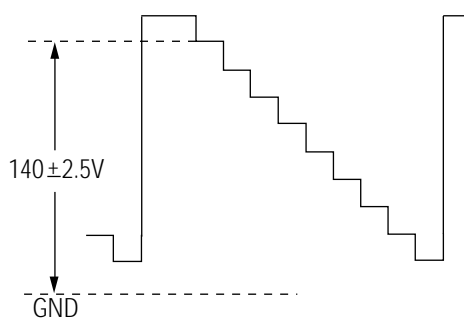

Fig. 4-1
4. Adjust the Screen VR (on the FBT) so that the voltage on the oscilloscope becomes $140 \pm 2.5V$ (See Fig. 4-1).